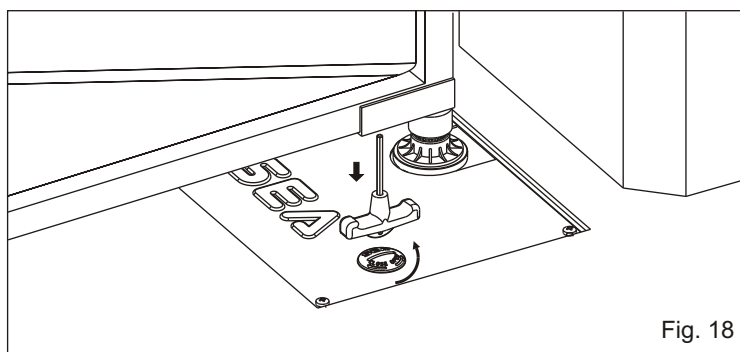

Fig. 18
- Use the supplied key top surface to open the release cap which protects the extension previously installed (Fig. 18)